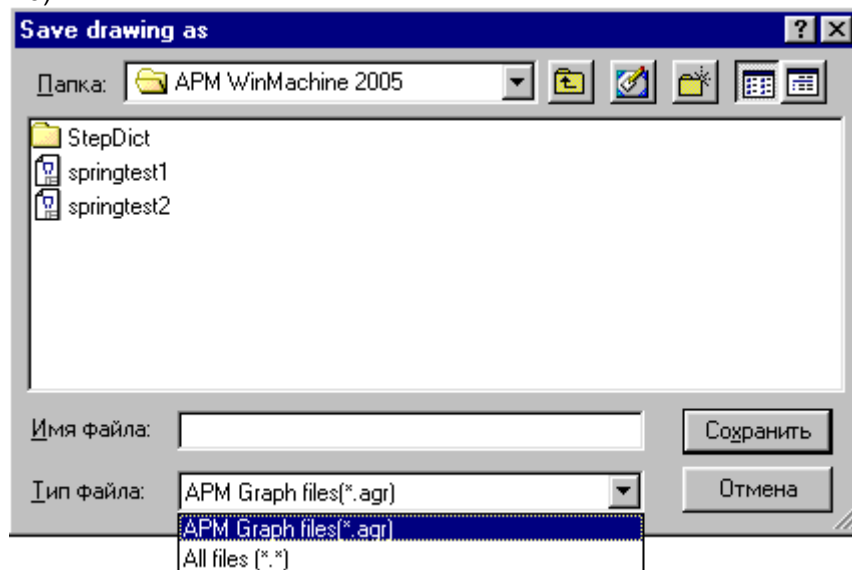

Fig. 2.3. Dialog box for entering the name of drawing file.
**A:** Use command Results to open dialog box with calculation results. In this dialog box select *Drawing* button. New window with schematised picture of drawing is displayed. This picture contains three active zones accessible with mouse. The window has its own menu as well. Mouse double clicking in the first zone (or selecting Data | Construction command) allows enter drawing parameters that cannot be calculated and should be specified "manually". Second zone (Data | Technical Requirements) is responsible for technical requirements entering. Double clicking in the third zone (Data | Title Block command) invokes dialog box for title block filling. To move from one zone to another use TAB key. After you enter all parameters of the drawing, it is necessary to select Save... command. Dialog box will be displayed where you have to enter the name of the file for drawing and its type: agr. (Fig.2.3).